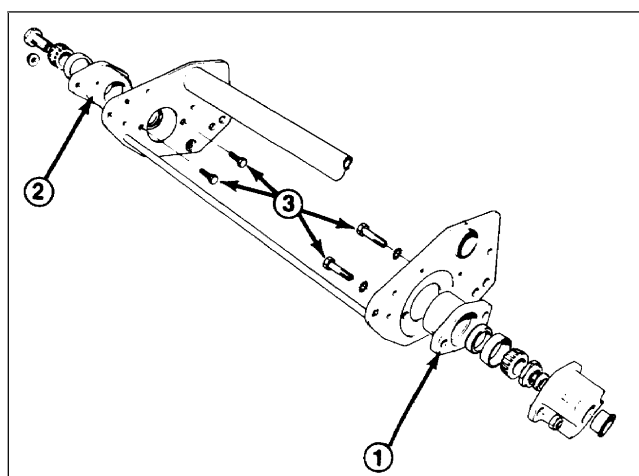

Figure 29
3. Remove machine screws securing bearing housing on each end of cutting unit (Fig. 29). Machine screw heads will have to be cut off before screw can be completely removed: